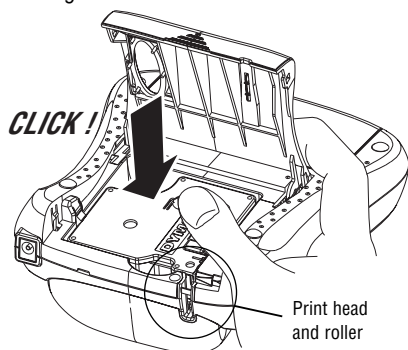

Figure 4
4. Insert the cassette with the tape and ribbon positioned between the print head and roller. See Figure 4.